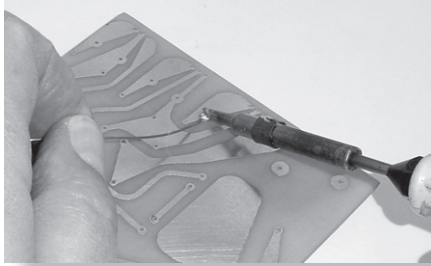

FIGURE 5.22 Soldering a terminal pin to a printed circuit board.
- **APPLY** the soldering iron bit tip to the terminal pin and wait for a few seconds (See Figure 5.22)